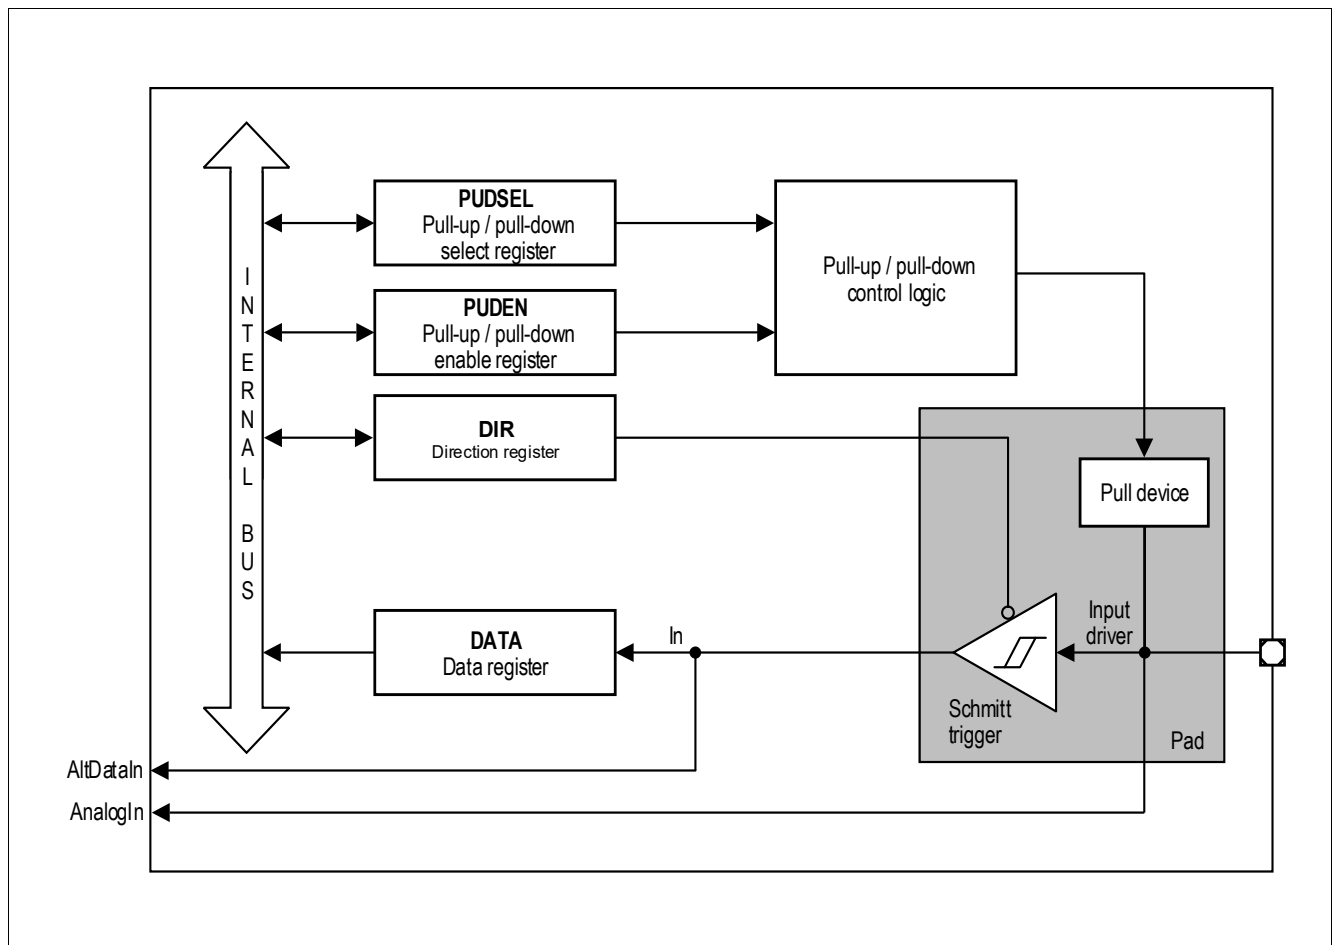

**Figure 16** General structure of a bidirectional port (P0, P1)
**Figure 16** shows the block diagram of a TLE9872QXA40 bidirectional port pin. Each port pin is equipped with a number of control and data bits, thus enabling very flexible usage of the pin. By defining the contents of the control register, each individual pin can be configured as an input or an output. The user can also configure each pin as an open-drain pin with or without an internal pull-up/pull-down.